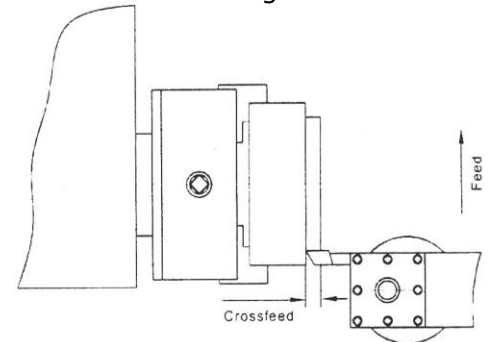

Fig.12
14.8 facing and recesses (Fig.12)